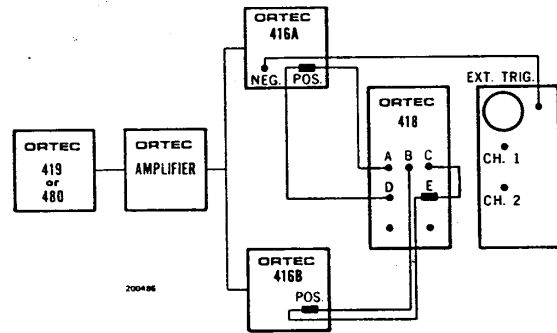

Fig. 6.1. ORTEC 418A Test Circuit
1. Connect the above test equipment as shown in Fig. 6.1. The ORTEC 416's will be referred to as 416A and 416B for clarity.